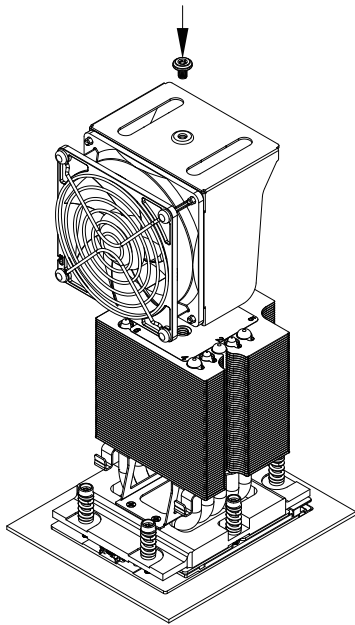
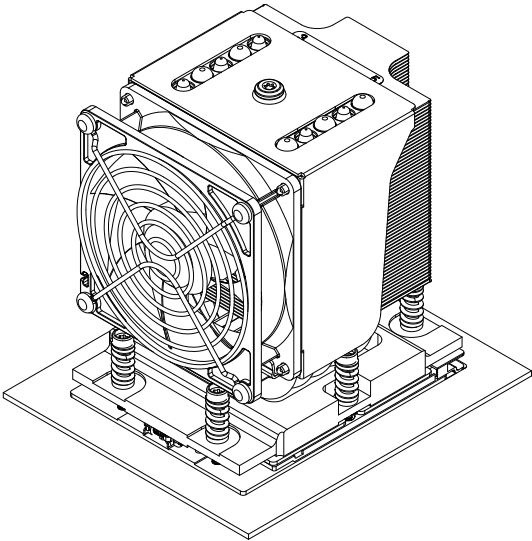

Figure 5
Figure 6
7. For XE04 series, adjust the screwdriver torque setting to 5.0~4.0 kgf-cm (4.3~3.5 lbf-in). install the heat sink cooling fan and holder assembly on the heat sink body and then tighten the single locking screw on top of the fan holder (Figure 5 & Figure 6).